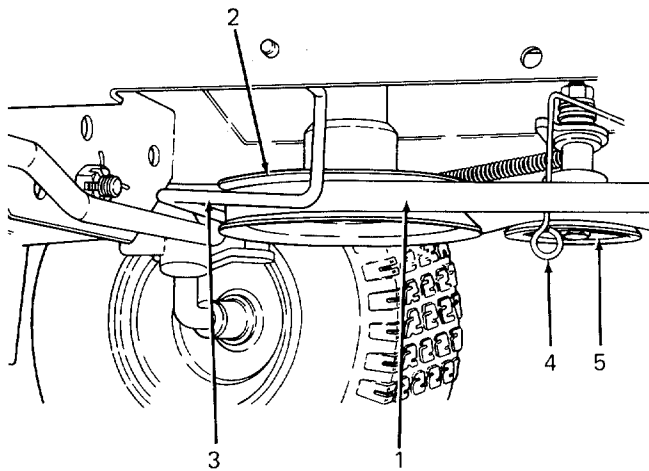

Figure 39
- Remove the PTO belt from the idler pulley as follows: Pull loop on idler pulley belt guard away from the idler pulley and remove PTO belt from the pulley. (Refer to Figure 39.)
- Remove PTO belt from engine drive pulley as follows: Push the engine drive pulley belt guard upward and toward the front of the tractor and remove the PTO belt from the pulley. (Refer to Figure 39.)